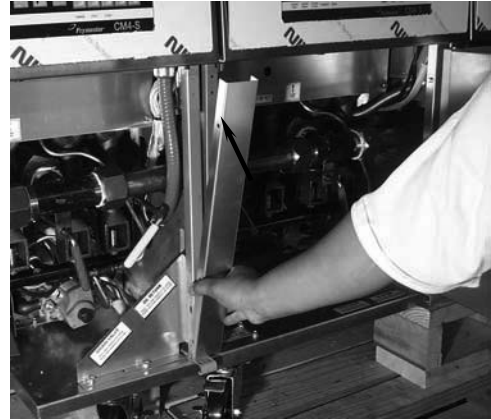

Figure 8. Installing front connecting post on connected fryer sections.
9. Install the front connecting post on the connected cabinets (Figure 8; see factory-installed posts on two-battery fryer sections).